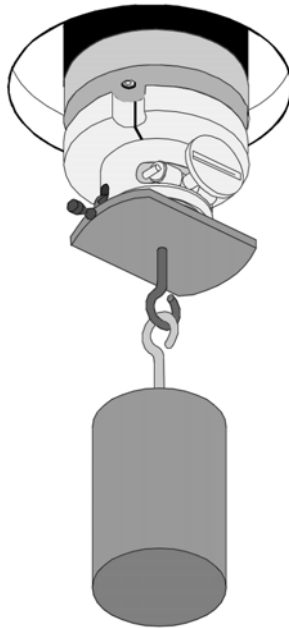

Figure 5-6. Applying Normal Force Using the Calibration Weight.
8. Hang the weight specified in Table 5-4 (depending on the transducer in use) from the hook on the bottom of the calibration tool (Figure 5-6). Ensure that the weight is free to hang without obstruction, and that the weight is steady (not swinging from side-to-side).